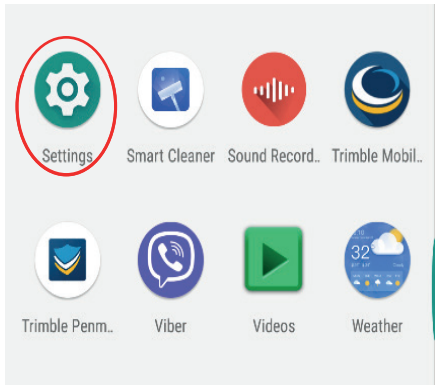
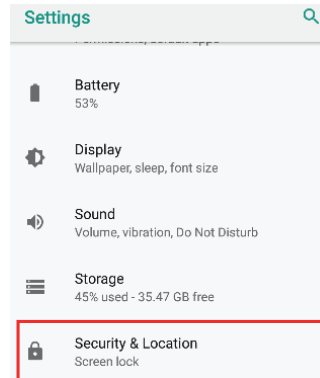
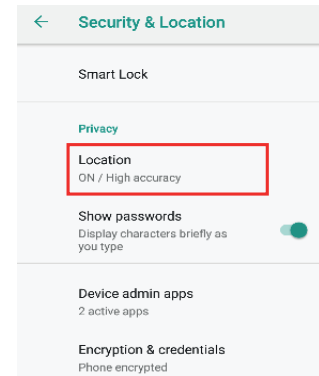

Figure 23: Accessing “Settings” on Trimble TDC600
Figure 24: Trimble TDC600 - Security & Location settings
Figure 25: Trimble TDC600 - Location Accuracy settings
1. Once the KoBoCollect app has been installed, access the "Settings" tab for the TDC600. Click on "Security & Location". (Figure 23/Figure 24)
2. By clicking on "Security & Location" the user has access to Location settings. (Figure 24) Click on "Location" under sub-tab "Privacy" to access settings for accuracy, GNSS, NMEA, SBAS and GALILEO modes. (Figure 25)